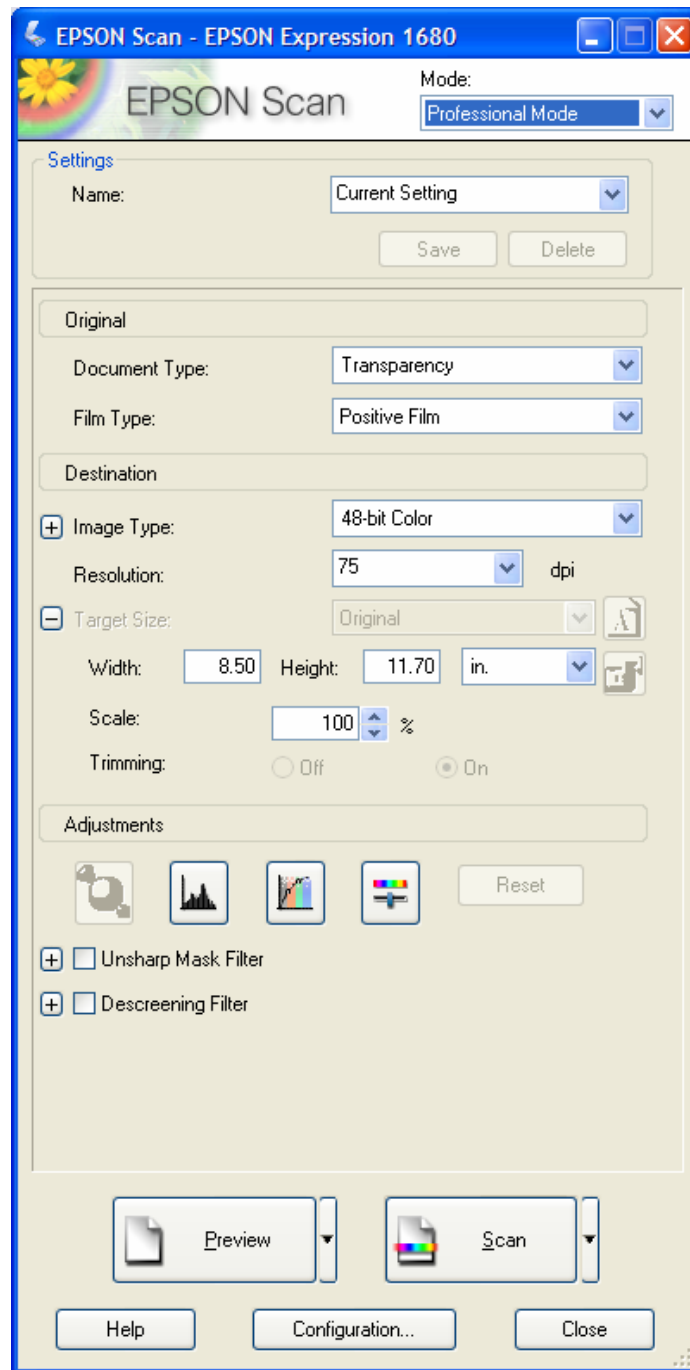

Figure 1
8. With Epson scanners having a transparency adapter you will see window similar to that in Figure 1 when you scan for the first time. Set the menu options to: